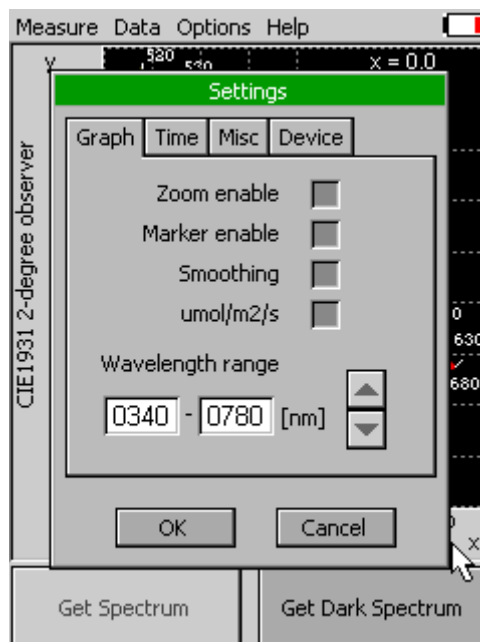

Fig. 12 Graph settings.
- **Graph** – displays options for setting the wavelength range and graph features (Fig. 12)